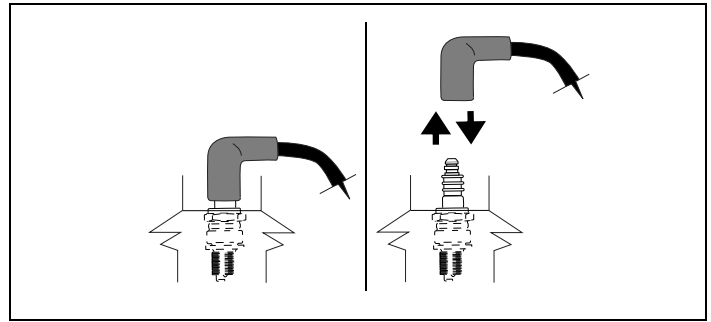

Figure 53. Disconnecting/Connecting Spark Plug
1. Carefully disconnect spark plug wire and keep it away from spark plug. See Figure 53. See "G. Avoid Accidental Starts" instructions on page 2. Afterward, continue reading instructions below.
10. Carefully re-connect spark plug wire to spark plug. See Figure 53.